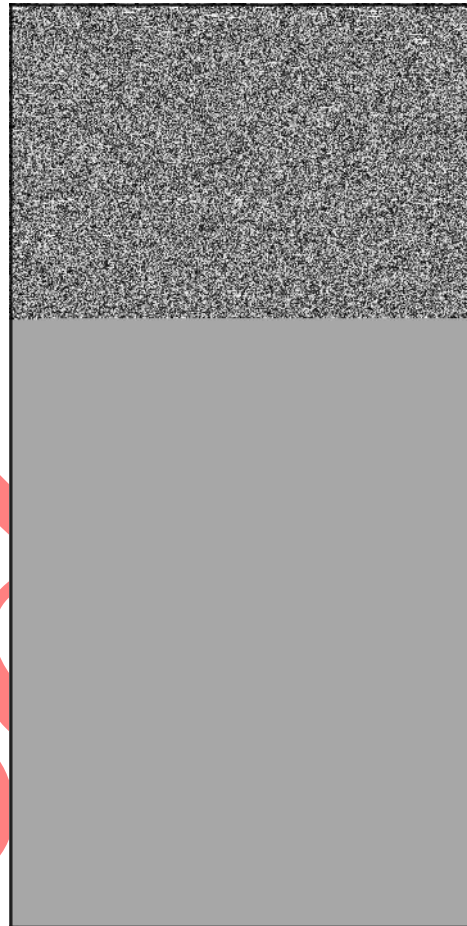

Figure 26
3. Install muffler supports and start but do not tighten screws (**A, B, C**, Figure 26).